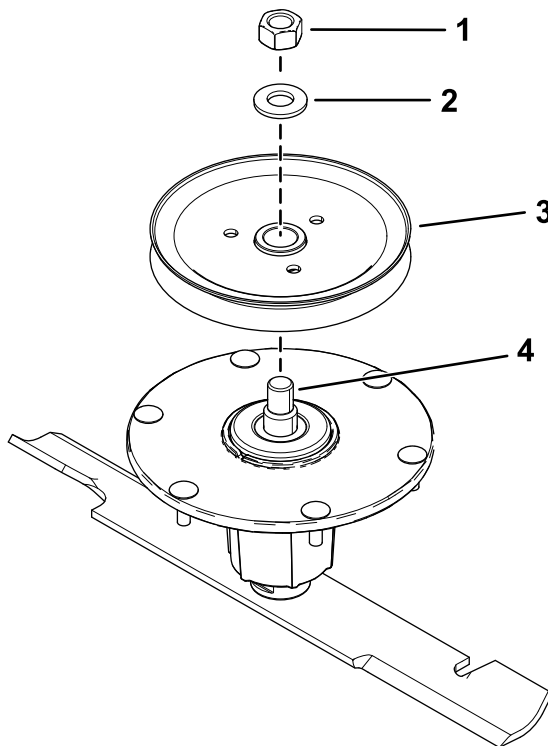

Figure 7
1. Remove the top nut, washer, and sheave from the spindle (Figure 7).